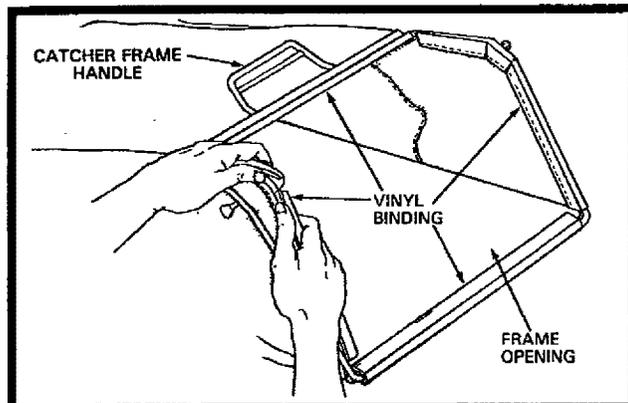

FIG. 3
- Put grass catcher frame into grass bag with stiff part of bag on the bottom (See Fig. 3). Make sure the frame handle is outside of the bag top.
- Slip vinyl bindings over frame (See Fig. 3).